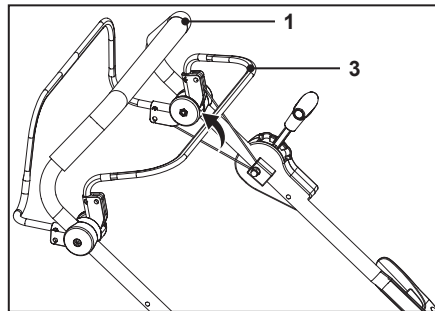

Fig. 12
1. Pull back the brake lever (3) and hold it against the upper grip handle (1) when starting the engine. Keep it squeezed during operation (Fig. 12).
2. Release the brake lever (3) to stop the engine.
1. Pull back the brake lever (3) and hold it against the upper grip handle (1) (Fig. 12).